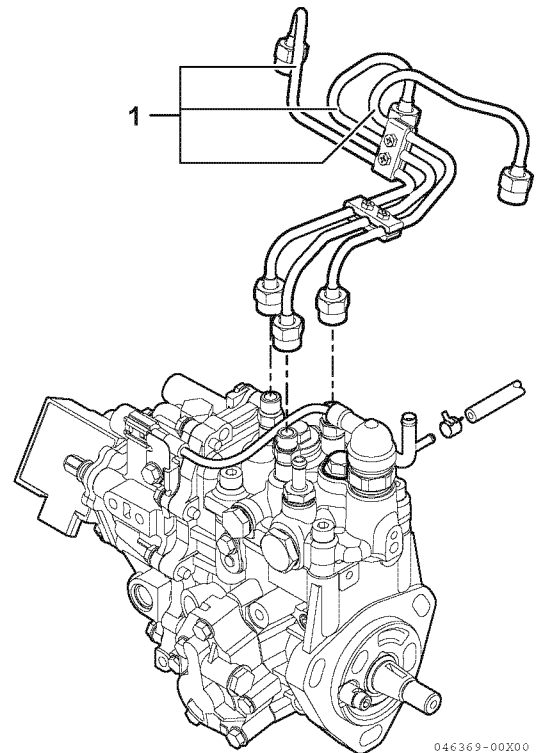

Figure 7-43
- Remove the high-pressure fuel injection lines as an assembly (**Figure 7-43, (1)**).